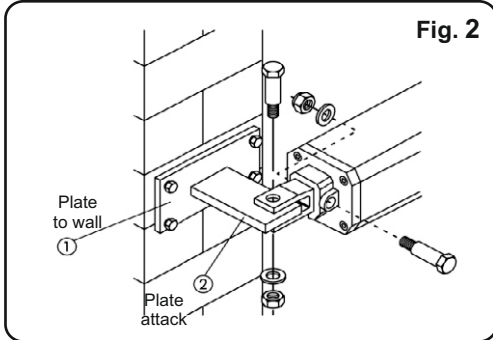

Fig. 2
- 2) Fix to the pillar, with screws and dowel, the rear mounting plate and weld the rear mounting plate (Fig. 2);
B) Attach the operator to the rear (Fig. 2);